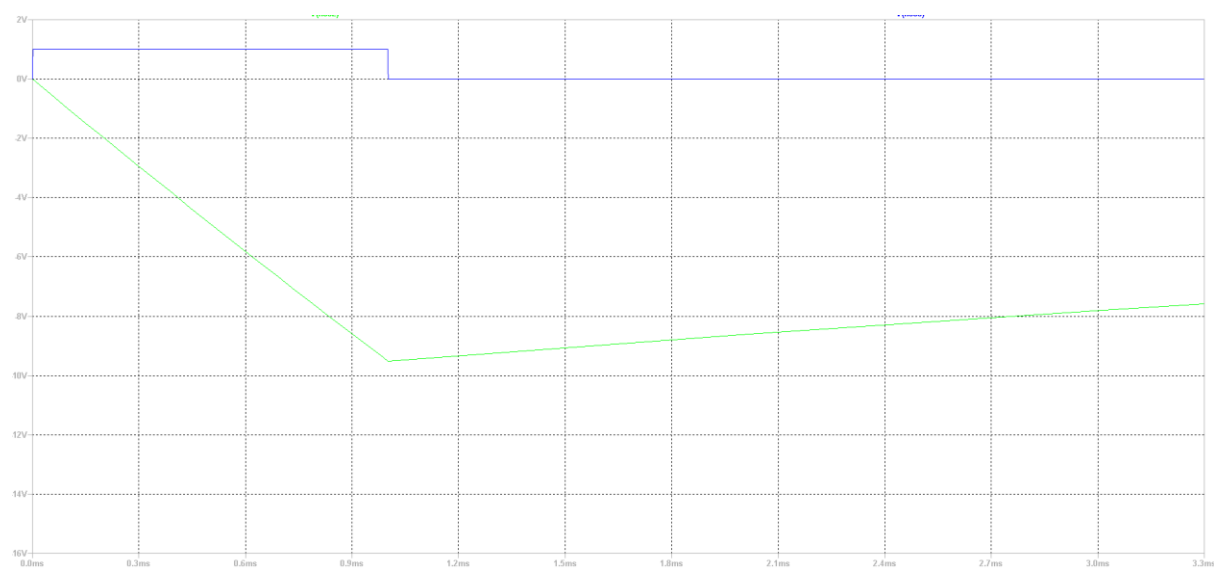

Figure 4 – Practical Integrator Output Showing Ramp and Exponential Recovery (Pulse: 1 V, 1 ms On-Time)
The differentiator circuit used in this experiment is shown in Figure 4. The input signal is applied through a capacitor (C), which ensures that only rapid changes in the input voltage reach the inverting terminal of the op-amp. A resistor (R) is placed in the feedback path to set the differentiator's gain and provide stability.